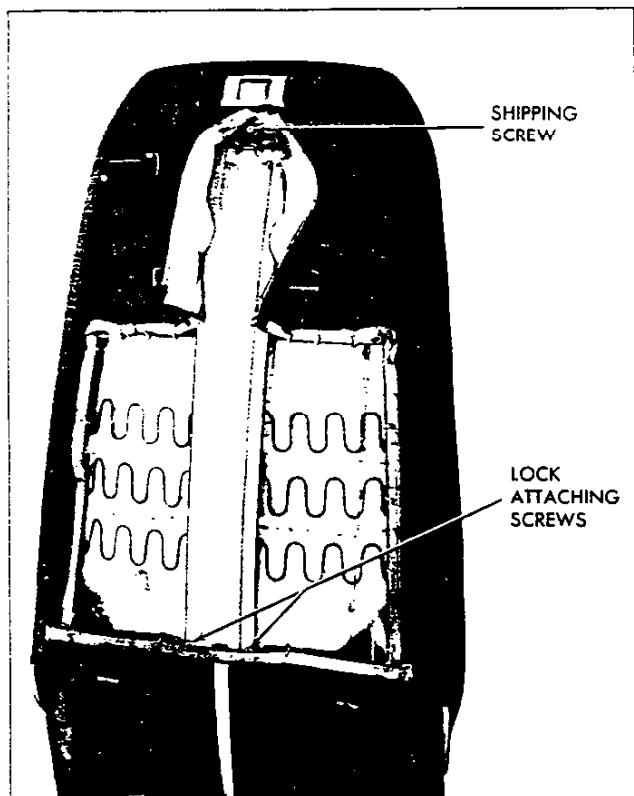

Fig. 48—Front Seat Back Lock Attachments
- IMPORTANT:** If removing and reinstalling same lock assembly, install lock up screw at location shown in Figure 48.
IMPORTANT: After all lock assembly attaching screws, including lock strap-to-cushion frame screws, have been tightened, remove shipping screw at location shown in Figure 48.